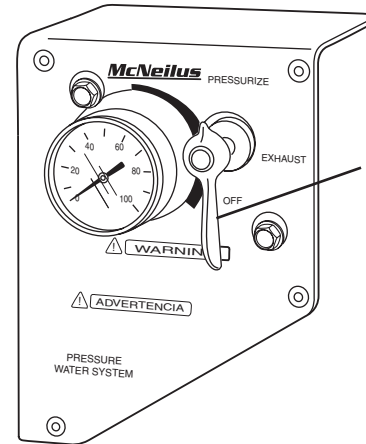

Figure 40
2. After pressure in the water tank has been completely exhausted, turn the air pressure control valve to the OFF position (Figure 40, Item 1).